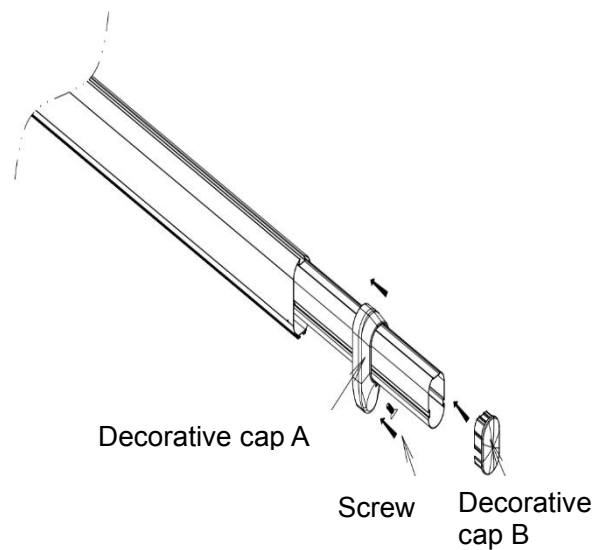

Figure 3-4
- 5) Install the decorative cap on the expansion boom, as shown in Figure 3-4.